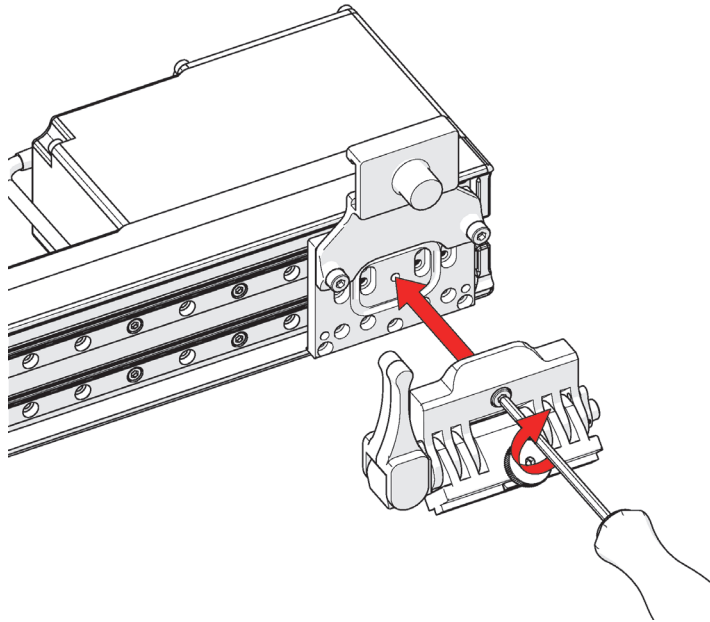

Figure 2-102 Install the male pivot nose
4. Mount the (male) pivot nose (sold separately) to the raster arm (see Figure 2-102 on page 124).